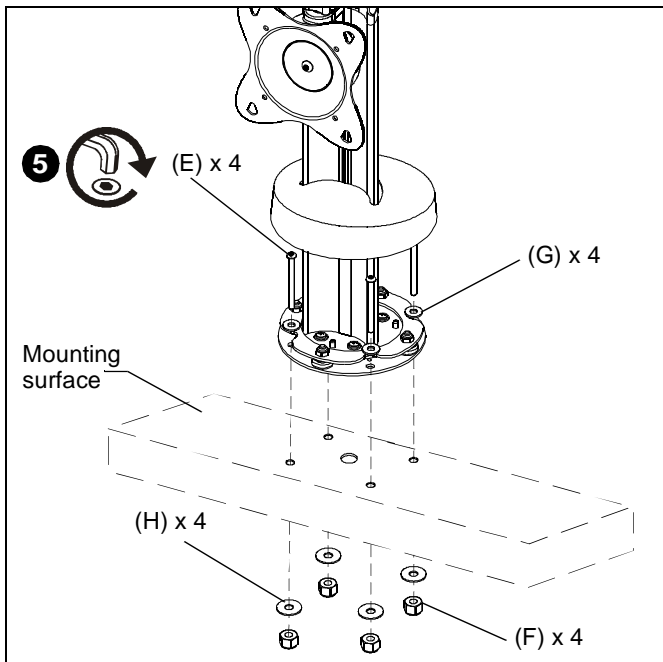

Figure 4
5. Attach STS1 to mounting surface using 5/32" hex key (L) and four 1/4-20 x 3" buttonhead cap screws (E), four flat 1/4" flat washers (G), four 1/4" fender washer (H), and four 1/4" Nylock nuts (F). (See Figure 4)